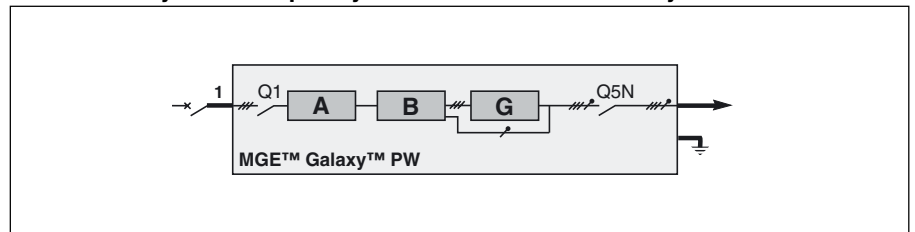

Fig. 11
► see figure 11 for a **MGE™ Galaxy™ PW** frequency converter without a battery;